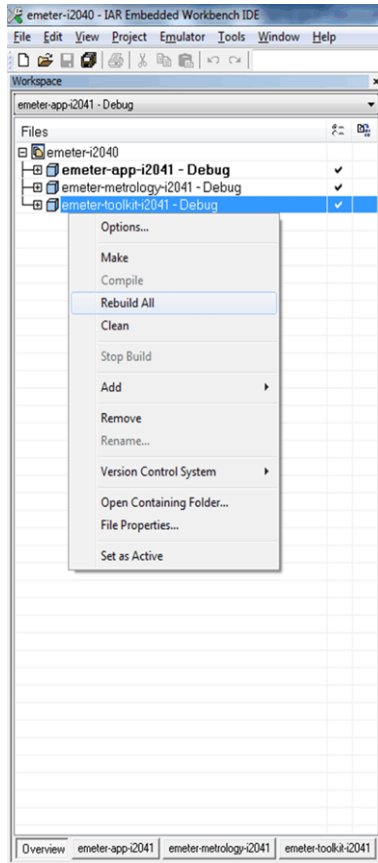

Figure 23. Toolkit Project Compilation
4. Right-click the "emeter-toolkit-i2041" option in the workspace window and select Rebuild All, as shown in Figure 23.